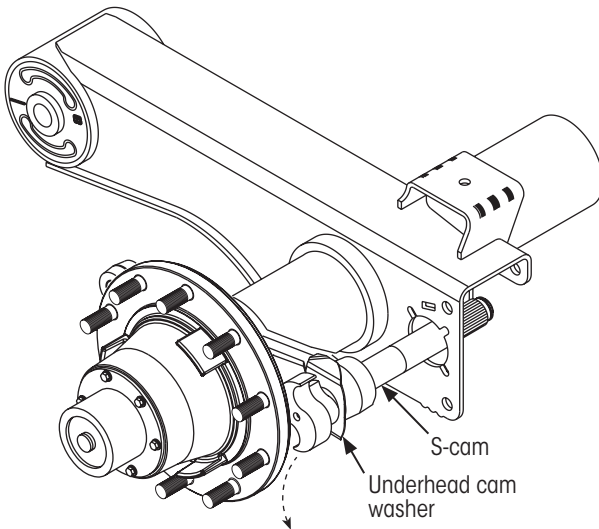

Figure 25: S-cam and underhead cam washer removal
1. **Remove** the S-cam and the underhead cam washer from the outboard side of the spider (Figure 25).